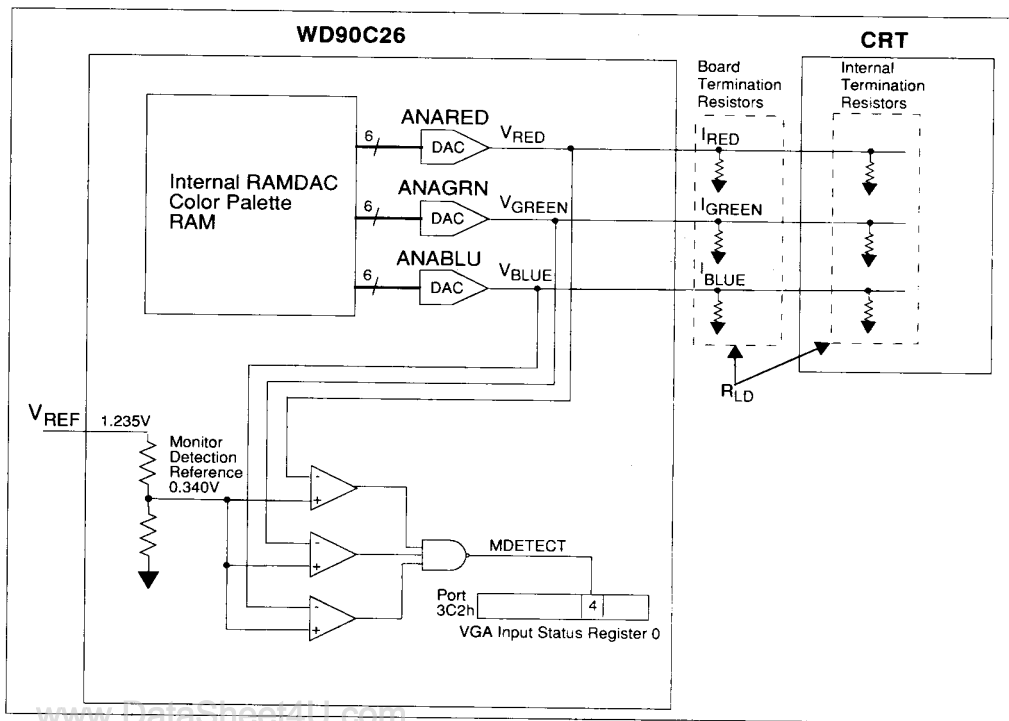

FIGURE 6-28 MONITOR DETECTION CIRCUIT FOR INTERNAL RAMDAC
- Internal RAMDAC Monitor Detection (Figure 6-28)
Figure 6-28 shows the monitor detection connections for the internal RAMDAC.